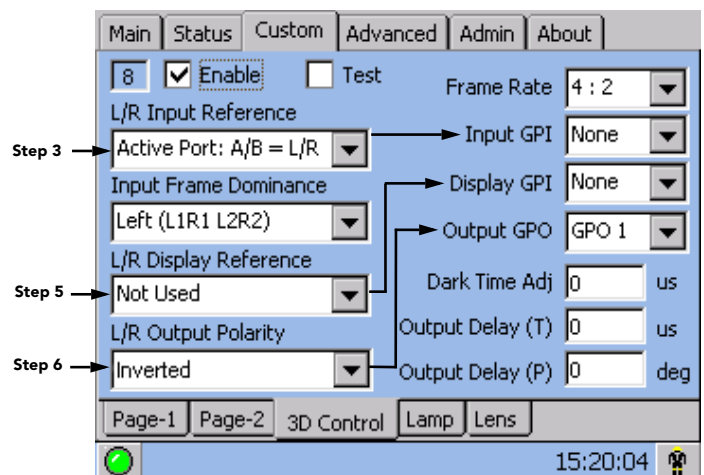

Figure 3-58 Setup for 3D
- Proper 3D configuration defined in the TPC's **Custom: 3D Control** menu. For best results, use the 3D internal test pattern shown in **Figure 3-58**.